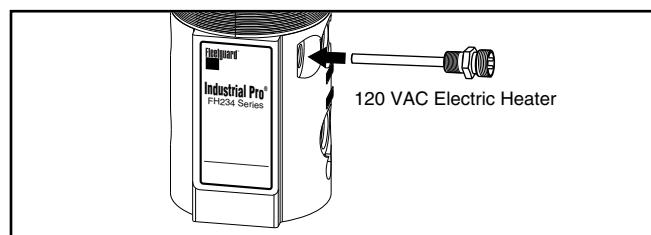

Figure 8 – 120 VAC Heater Installation
2. If a 120 VAC Heater is not already installed, remove the 1/2" NPT plug from the side of the Industrial Pro and install the 120 VAC Heater. Torque to 15-30 ft-lbs (20.3-40.7 N-m). (See Figure 8.)